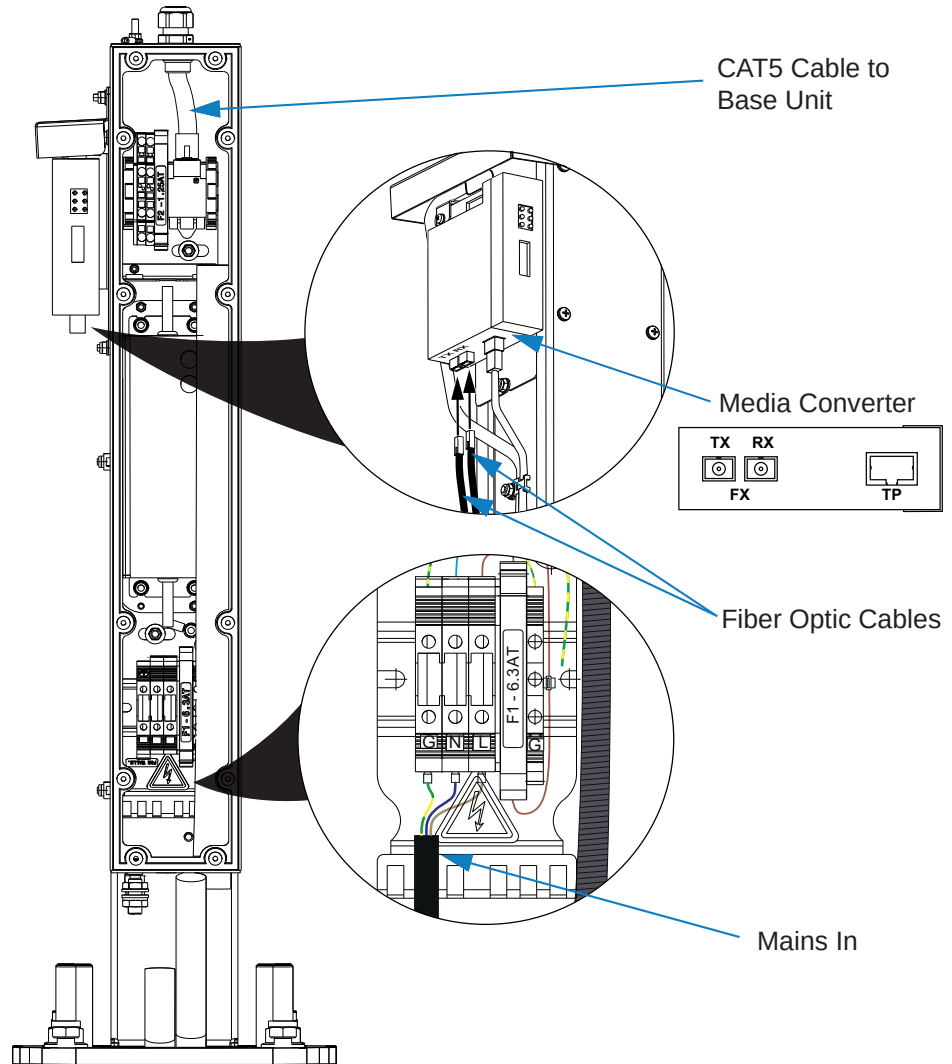

Figure 3-7 Cable Connections
- Step 5** Connect the power source to its respective termination points at the bottom of the Power Supply Junction Box as shown in **Figure 3-7**, Mains In.
- Step 6** Connect the fiber optic cables to the TX / RX sockets at the bottom of the media converter as shown in **Figure 3-7**, Media Converter.
The power supply inside the junction box combines the power source and data into a single output (24V DC) with an RJ Industrial 10G Ethernet Cable Termination. Note that the power supply is delivered with this Ethernet Cable already mounted (see **Figure 3-7**, CAT5 Cable to Base Unit). The other side of the pre-installed cable will be connected to the back of the SV|51 Base Unit.